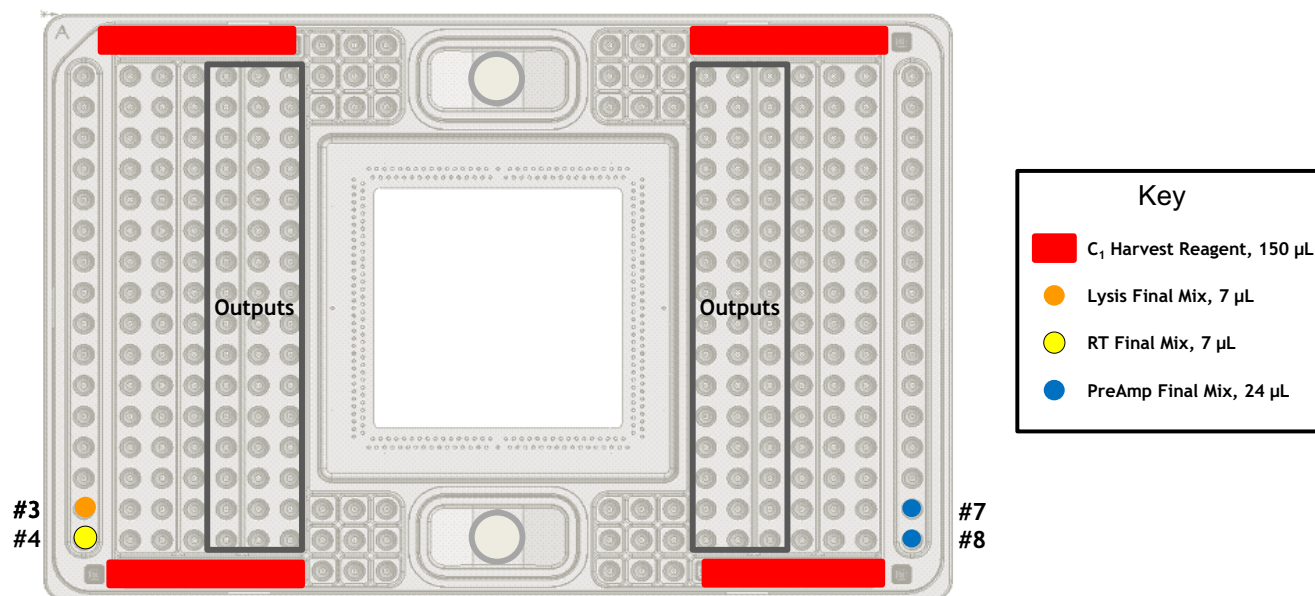

Figure 8 C₁ chip Lysis, RT and PreAmp pipetting map
- 1 Pipette 150 µL Harvest Reagent into the four reservoirs marked with large solid red rectangles in Figure 8.